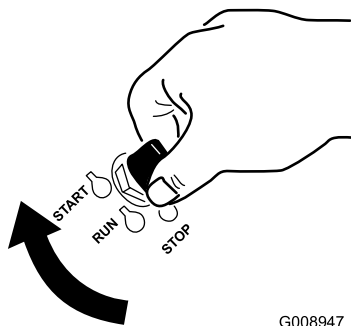

Figure 20
- Turn the ignition key to the START position (Figure 20).